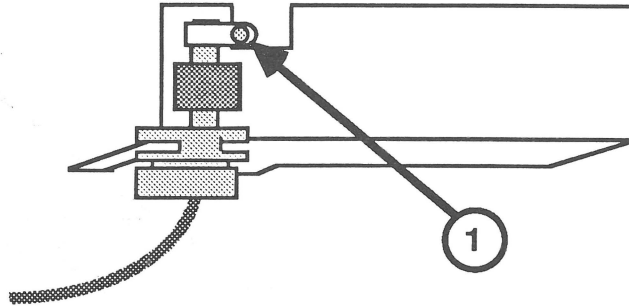

FIGURE 6
4. If you are replacing either the external drive cable or the shield, first separate them by removing the ground screw (Figure 6, #1)
1. Replace the ground screw if you removed it (Figure 6, #1).